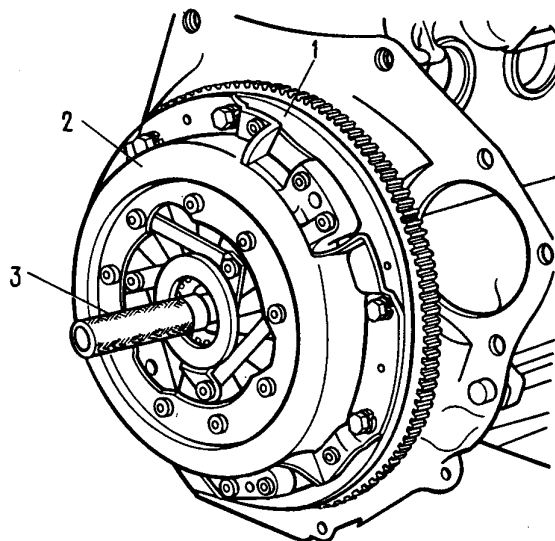

Fig. 3-4. Aligning Driven Disc with Mandrel A.70081:
- position the protruding part of the driven disc hub with the circular groove towards the gearbox and align the disc relative to the bearing with the aid of mandrel A.70081 which imitates the splined end of the gearbox clutch shaft (Fig. 3-4).